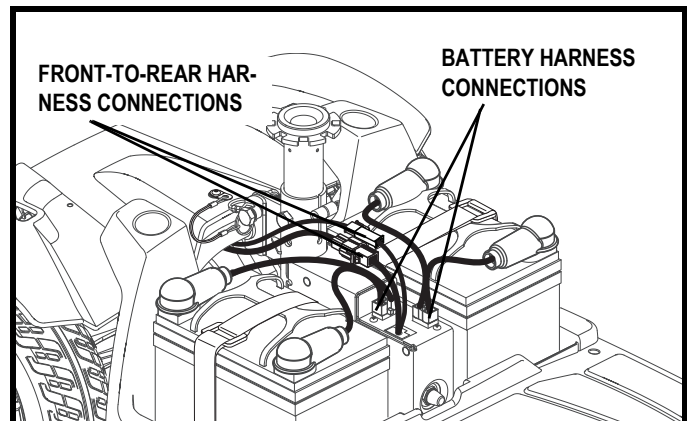

Figure 25. Harness Connections
4. Unplug both battery harnesses by depressing the tabs and then pulling each harness straight up. **See figure 25.**
6. Disconnect both front-to-rear harnesses. **See figure 25.**
7. Connect both battery harnesses. See **figure 25**.